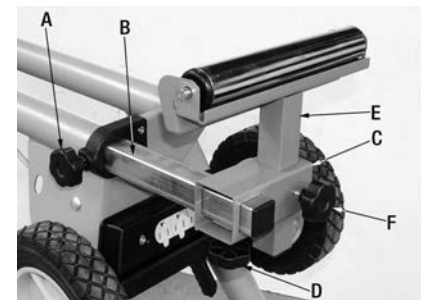

FIGURE 6
- 1) To lock the extension (B) Fig.6 at a desired distance, install and tighten the extension lock knob (A).
- 2) Slide the support bracket (C) Fig.6 onto the extension (B) and install and tighten the lock knob (D) to secure it in place.
- 3) Slide the roller support assembly (E) Fig.6 into the support bracket (C) and install and tighten the roller support lock knob (F) to secure it in place.